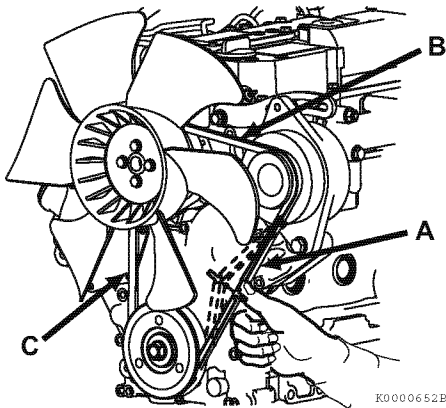

Figure 5-1
There are three positions to check for V-belt tension (**Figure 5-1, (A), (B) and (C)**). You can check the tension at whichever position is the most accessible. The proper deflection of a used V-belt at each position is: